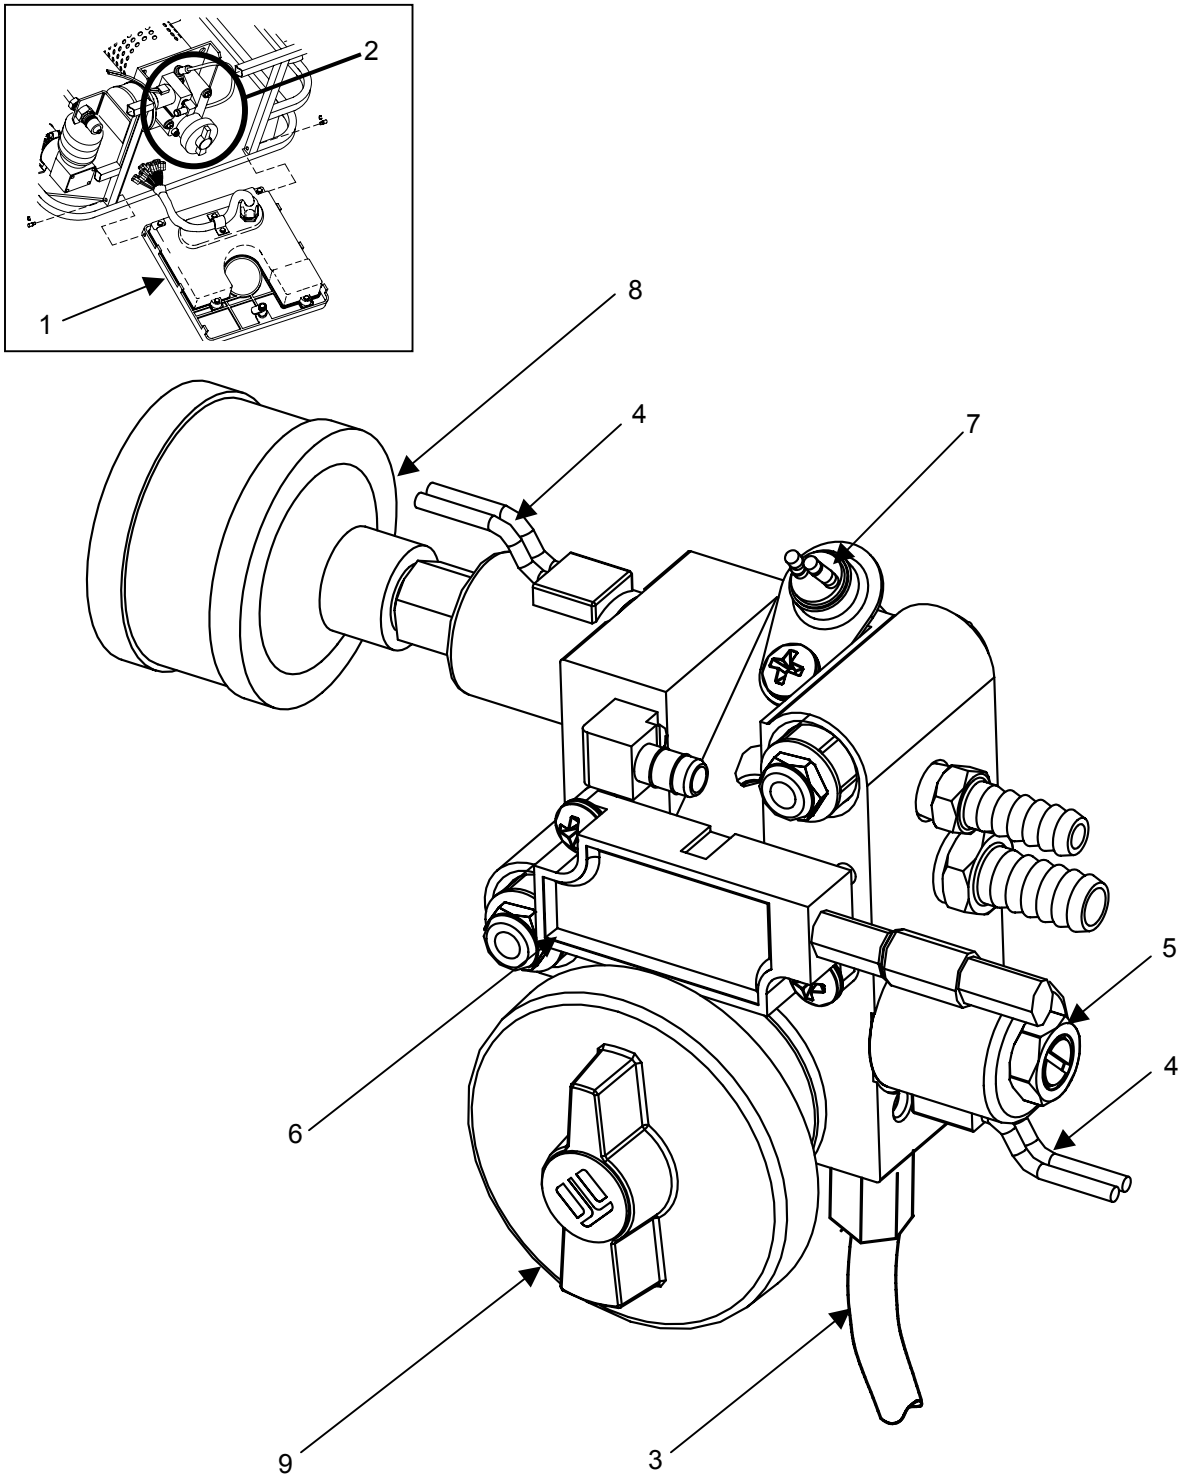

Figure 1. Inspect the Fuel Delivery Block Assembly
2. Open control panel (**figure 1, item 1**) to gain access to the fuel delivery block assembly (**figure 1, item 2**).
3. Inspect the fuel delivery block assembly for damage to individual components, including leaking or loose fuel hoses (**figure 1, item 3**), frayed or loose power leads (**figure 1, item 4**), damage to the solenoids (**figure 1, item 5**), flame sensor (**figure 1, item 8**), ignitor (**figure 1, item 7**), and air filter (**figure 1, item 6**). Check the control knob (**figure 1, item 9**) for free movement.
4. Close the control panel (**figure 1, item 1**).